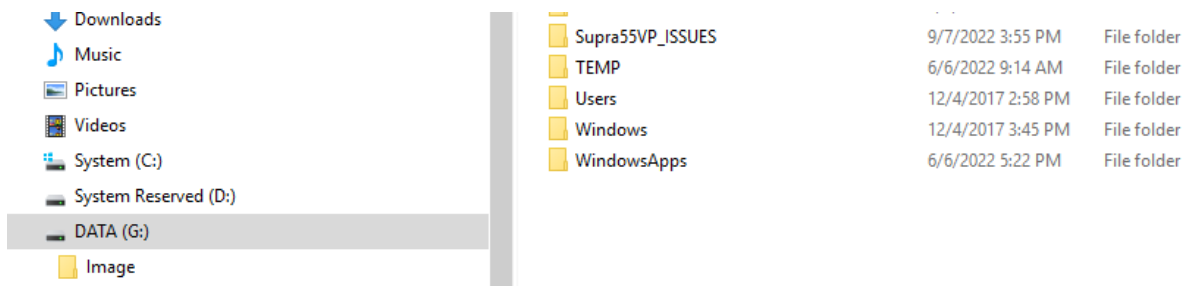

Figure 19
- Push **unload** (Figure 19)
- **Save screen shot into Supra 55VP_Issues folder in Data (G:) drive (Figure 19)**